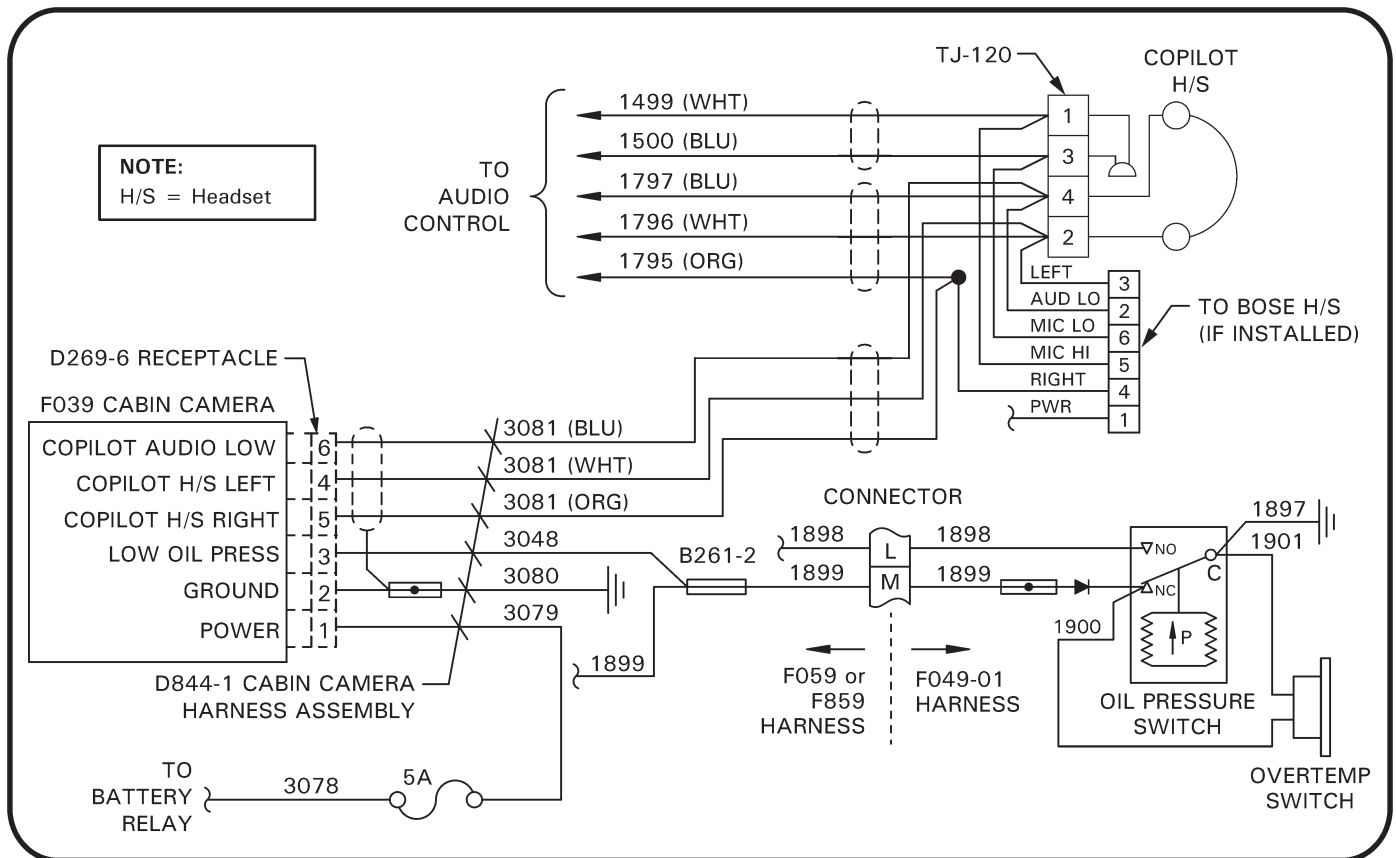
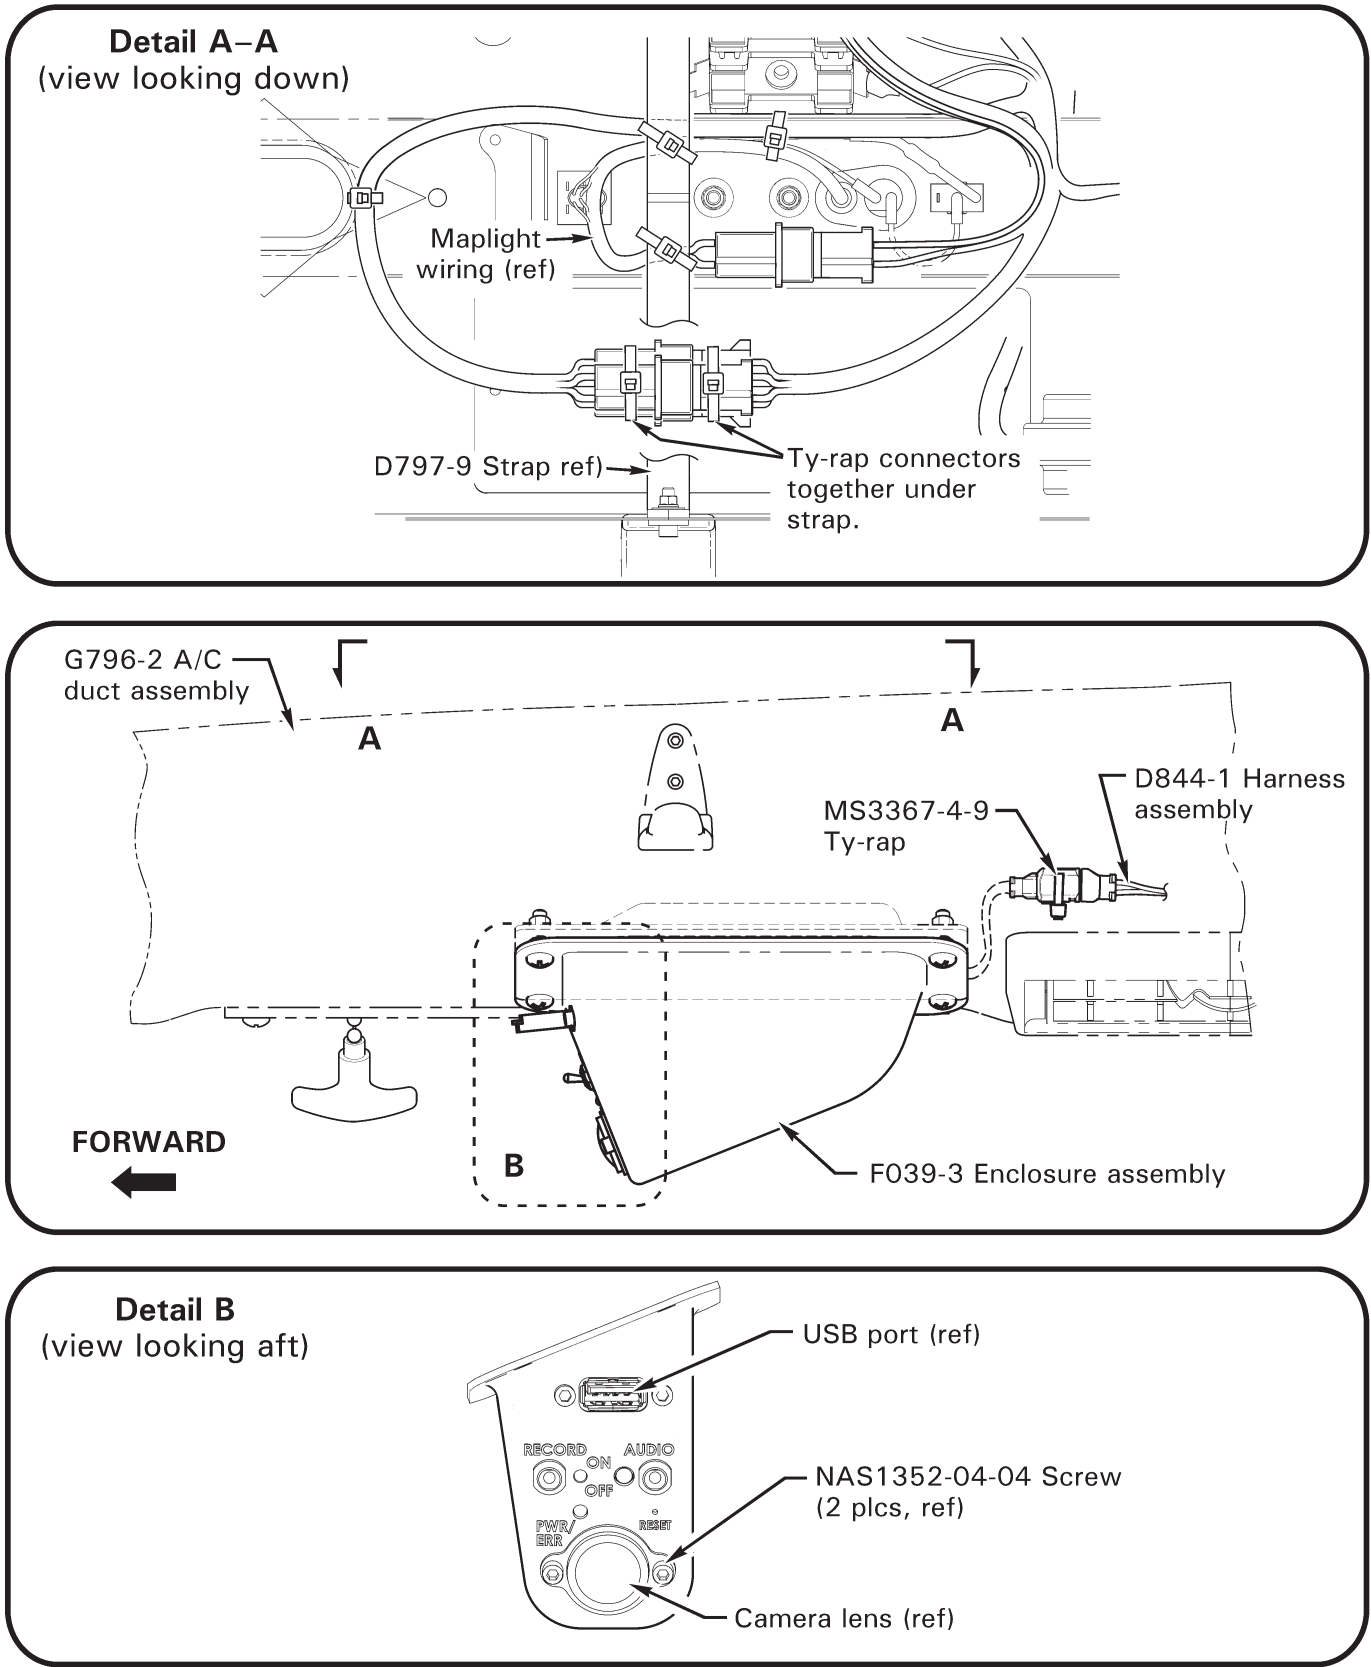
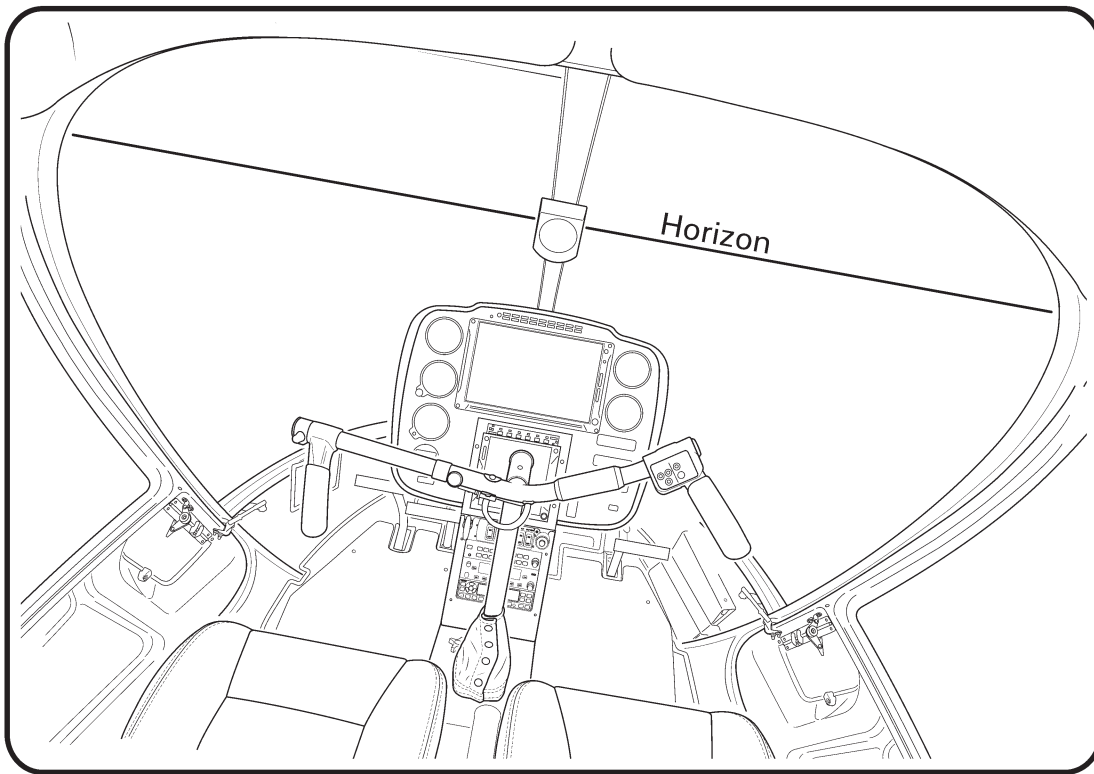

FIGURE 1 Wiring schematic
FIGURE 2 A/C duct & camera enclosure
FIGURE 5 Camera view angle
5. Refer to Figures 1 and 1A. Trim two 1/2-inch lengths of B158-3 heat shrink, and one 1-inch length of B158-2 heat shrink. Strip end of ORG, WHT, and BLU (-3081) wires.
7. Refer to Figure 2. Connect D844-1 harness assembly to camera plug in F039-2 enclosure assembly; secure connector using MS3367-4-9 ty-rap. Connect map light and air conditioning switch connectors to new duct assembly. Secure switch connectors together, under D797-9 strap (as shown in Figure 1), using appropriately-sized ty-raps. Cinch ty-raps until snug without over-tightening, and trim tips flush with head.
- b. Refer to Figure 2. Insert F714-4 flash drive assembly into USB port of F039-2 enclosure. Toggle helicopter battery switch ON for minimum 30 seconds; video will record automatically. While video is recording, activate & route an audio source (such as ATIS) to copilot headset. Toggle helicopter battery switch OFF.
- d. If horizon slants to the right (as shown in Figure 5), adjust angle by loosening two NAS1352-04-04 screws holding lens (see Figure 2) and rotate lens counterclockwise while facing lens; if horizon slants to the left, rotate lens clockwise. Tighten screws. Repeat steps b & c.